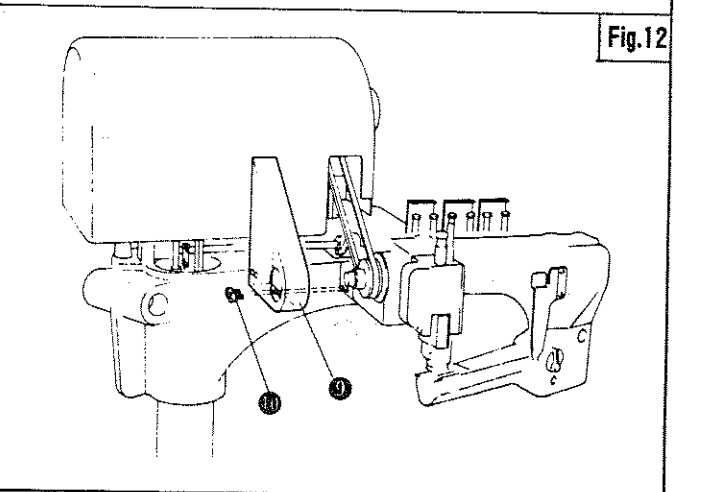

Fig.12
BELT COVER INSTALLATION (Fig. 12)
Refer to Fig.12 and attached Belt Cover ⑨ with Screw ⑩.